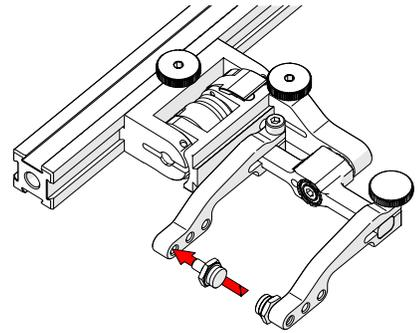

Fig. 102 - Place pivot buttons
4. Using the supplied 3/8 in wrench, place the pivot buttons (Fig. 102) farthest from the yoke for maximum wedge clearance.